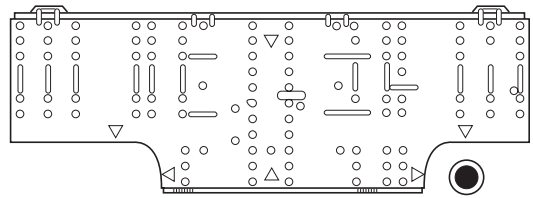

Fig. 3-19
- (1) Attach the rear panel to the wall with the 10 screws provided. (Fig. 3-19)